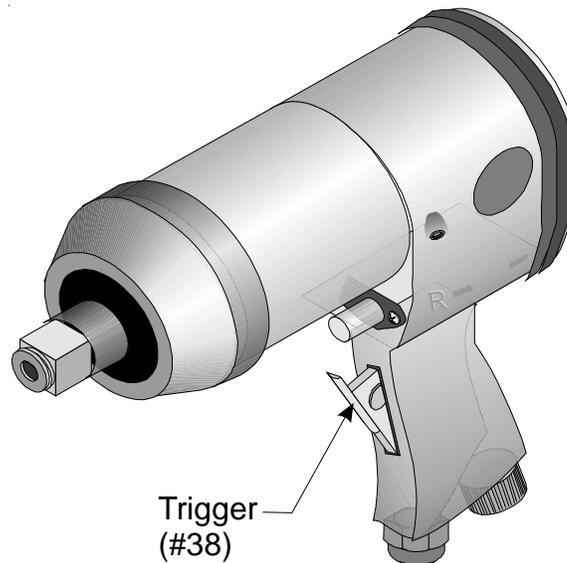

Figure 5 — Pressing Trigger
Step 7: Press the TRIGGER (#38) to test the Impact Wrench. The Impact Wrench should spin freely as shown if Figure 5